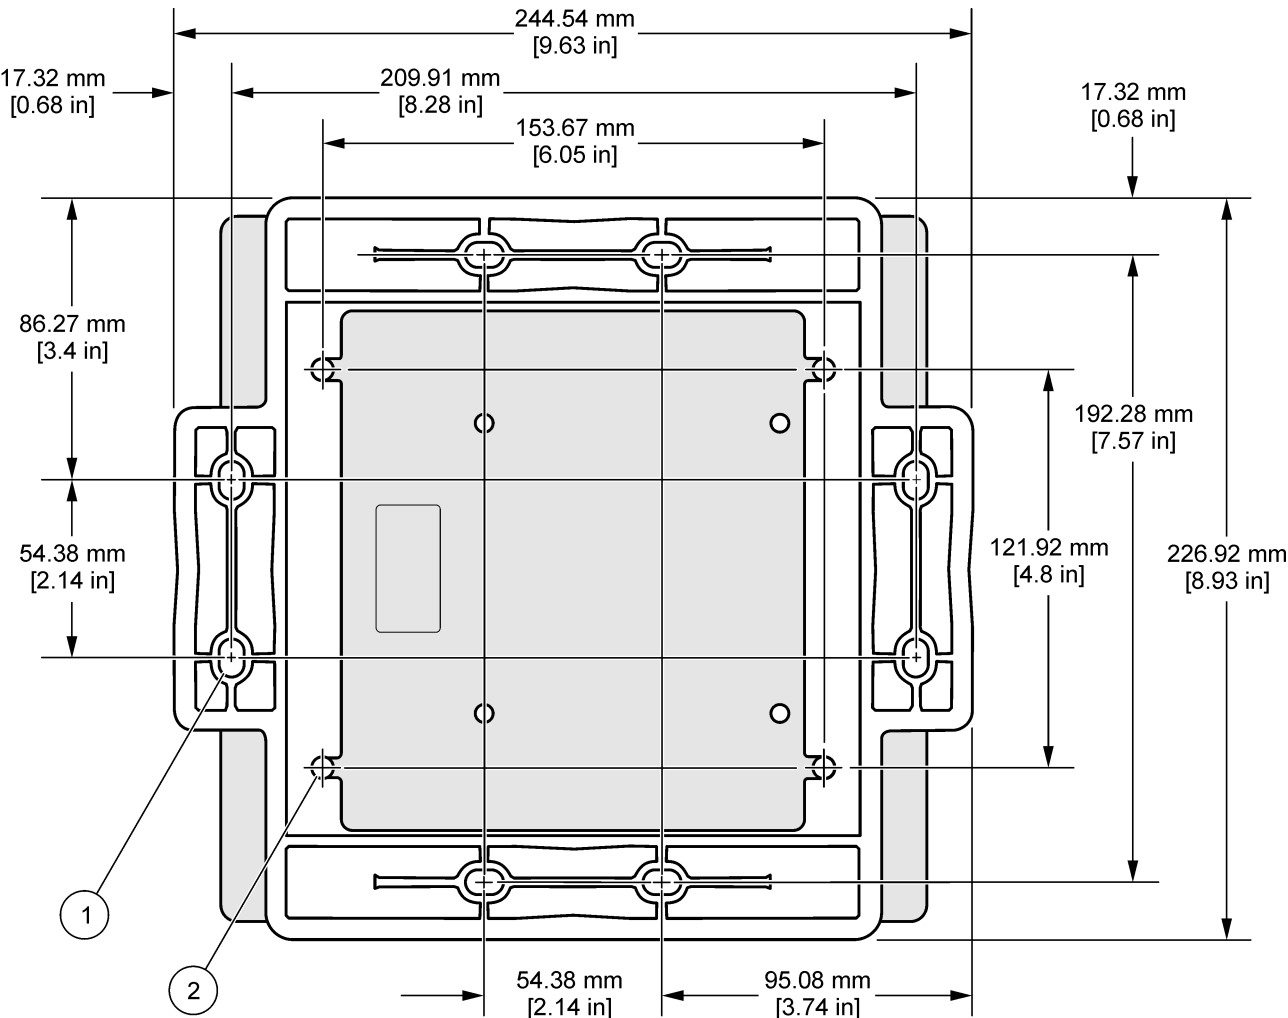

Figure 1 Mounting bracket dimensions
3. Use the bracket as a template or use the dimensions shown in Figure 1 on page 1 to mark positions on the wall for four of the eight screw holes.